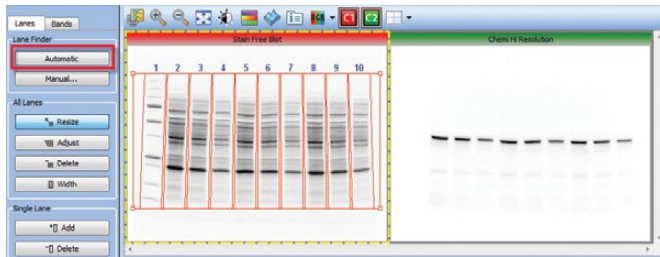

Fig. 3. Automatic detection of the lanes of the stain-free blot.
- Detect the lanes of the stain-free blot by highlighting the stain-free blot channel (Figure 3). Click **Lane and Bands** from the Analysis Tool Box; in the Lane Finder box, click **Automatic**